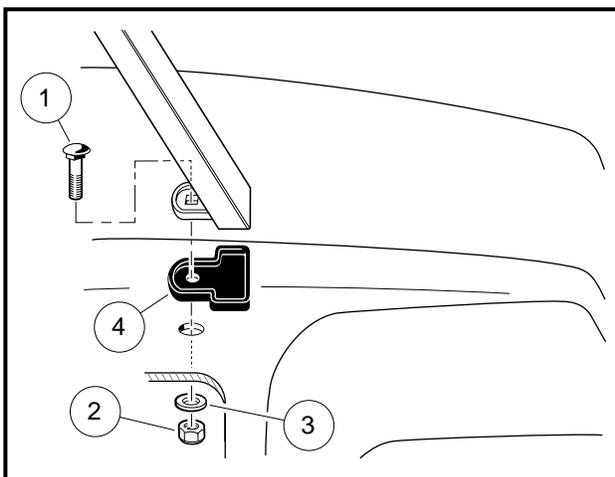

Figure 4-6 Seat Back Support Rear Leg Mounting
7. Remove two carriage bolts (1), nuts (2), and washers (3) attaching the rear legs of the seat back support assembly to the body (Figure 4-6, Page 4-7).
9. Lift seat back assembly from vehicle. Keep seat back assembly mounting pads (4) (Figure 4-6, Page 4-7).
3. Tighten two carriage bolts (1), nuts (2), and washers (3) attaching the rear legs of the seat back support assembly to the body to 11 ft. lb (14.9 N-m) **(Figure 4-6, Page 4-7)**.
- INSTALL THE MOUNTING PADS (4) **(FIGURE 4-6, PAGE 4-7)** BETWEEN THE REAR BODY AND THE SEAT BACK ASSEMBLY.